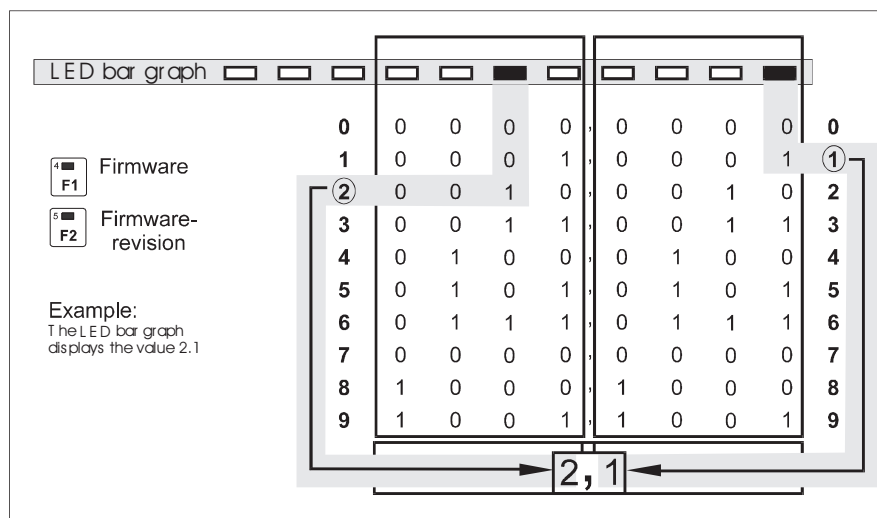

Figure 2
- g. The firmware is displayed by pressing F1. For a detailed description of how to read the firmware from the LED bar graph, see the example in Figure 2 further on.
- h. The firmware revision is displayed by pressing F2. For a detailed description of how to read the firmware revision from the LED bar graph, see the example in Figure 2 further on.